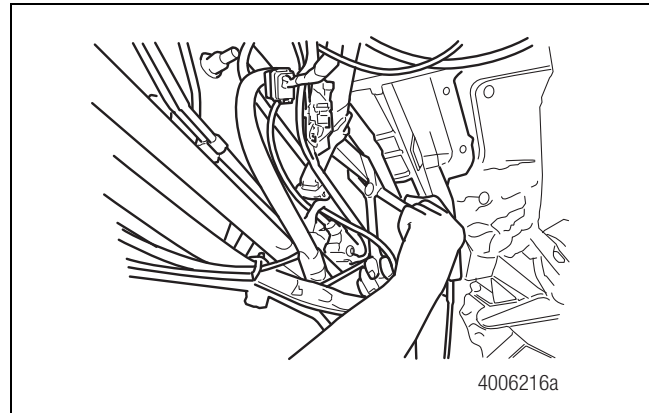

Figure 1
7. Use hose clamp pliers to clamp the rubber hose at least three-inches (76.2 mm) away from the entrance to the HCU reservoir. Use care to avoid damage to the plastic reservoir nipple inside the hose. Figure 1.